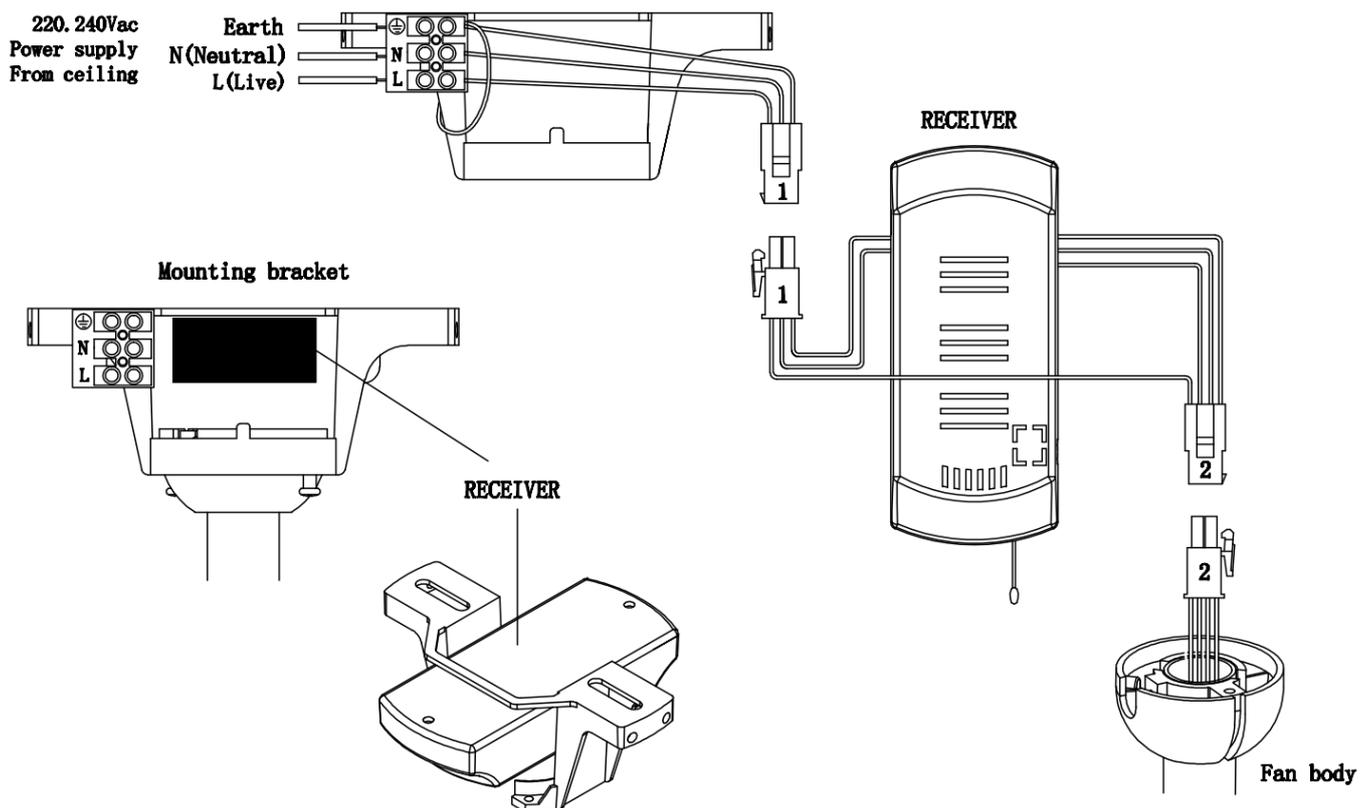

Fig.8
From mains supply to mounting bracket terminal block: (Fig. 8)
From mounting bracket to receiver and fan motor: (Fig. 8)
- Carefully insert the Remote Receiver above the hanger ball in the remainder spacing in the mounting bracket. Take care not to damage or loosen any of the wiring. (Fig. 8).